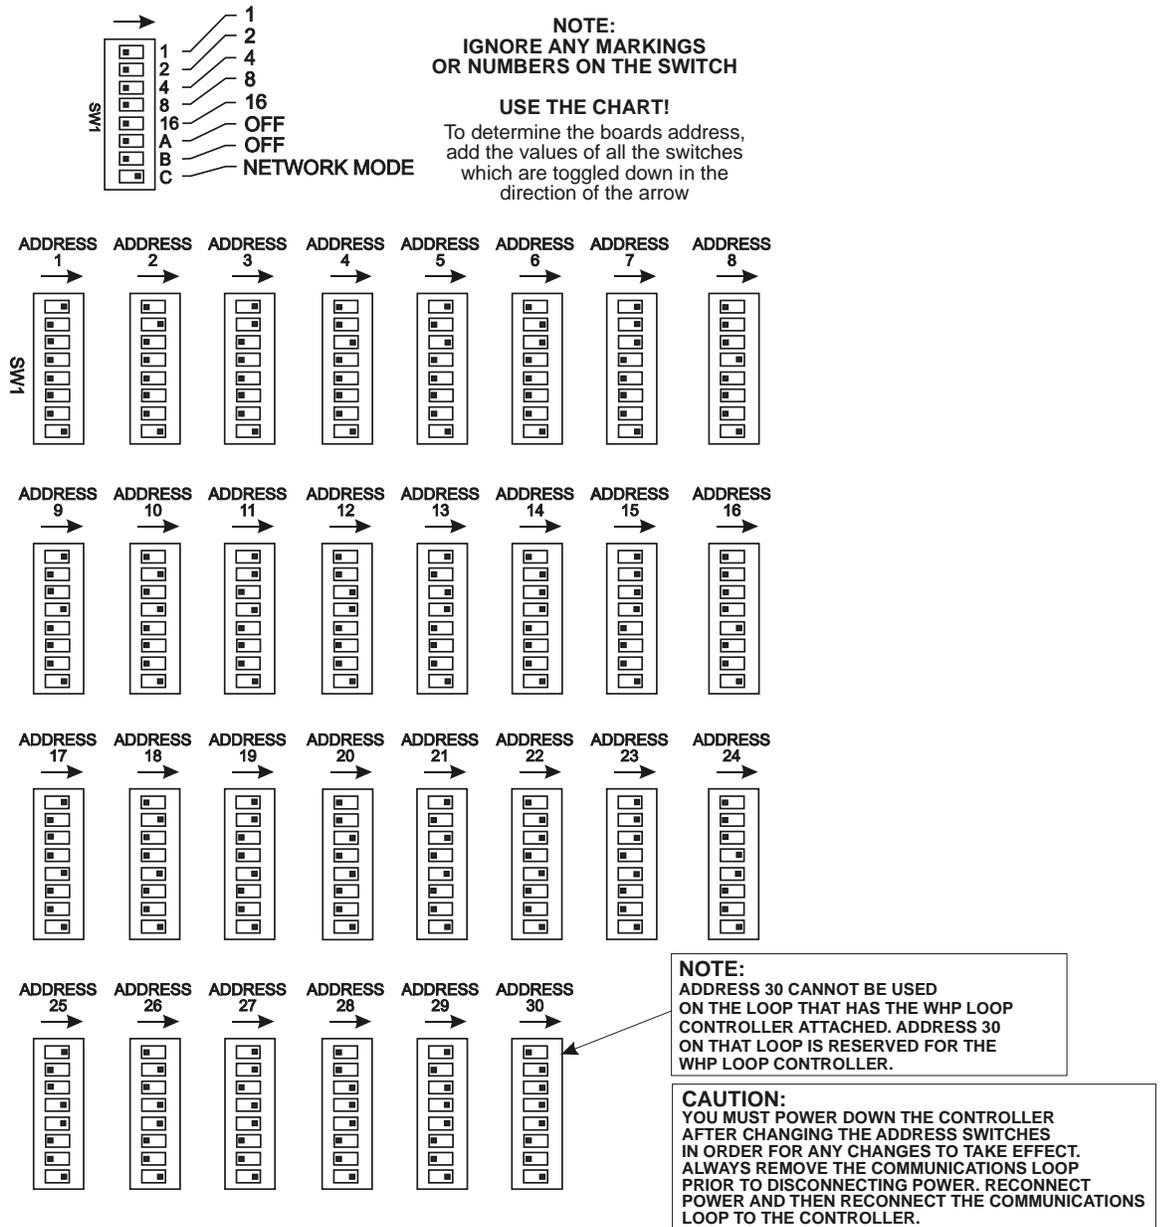

Figure 4-10: WHP Controller Address Switch Setting
- Are the WHP and Loop Controller address switches set correctly? See the addressing chart. (WHP Loop Controller should always be set to address 30, see **Figure 4-10**)
- Is the MiniLink address switch set correctly? See the addressing chart.(see **Figure 4-10**)